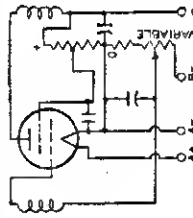

Fig. 86
Grid-bias variation for the rf and if amplifier stages is a convenient and frequently used method for controlling receiver volume. The variable voltage supplied to the grid may be obtained: (1) from a variable cathode resistor as shown in Figs. 84 and 85; (2) from a bleeder circuit by means of a potentiometer as shown in Fig. 86; or (3) from a bleeder circuit in which the bleeder current is varied by a tube used for auto-